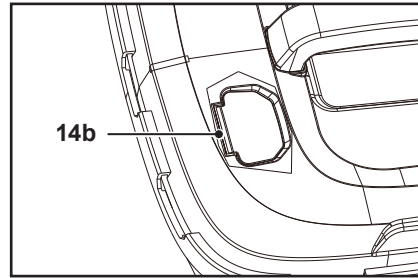

Fig. 12
2. When the hatch (14b) is closed, the grass collector is full and must be emptied (Fig. 12).